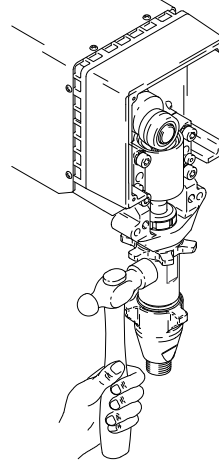

Fig. 25
- Fig. 25. Screw jam nut down onto pump until stops. Screw pump up into bearing housing until it is stopped by jam nut. Back off pump and jam nut to align pump outlet to back. Tighten jam nut by hand, then tap 1/8 to 1/4 turn with a 20 oz (maximum) hammer to approximately 75 ± 5 ft-lb (102 N-m).